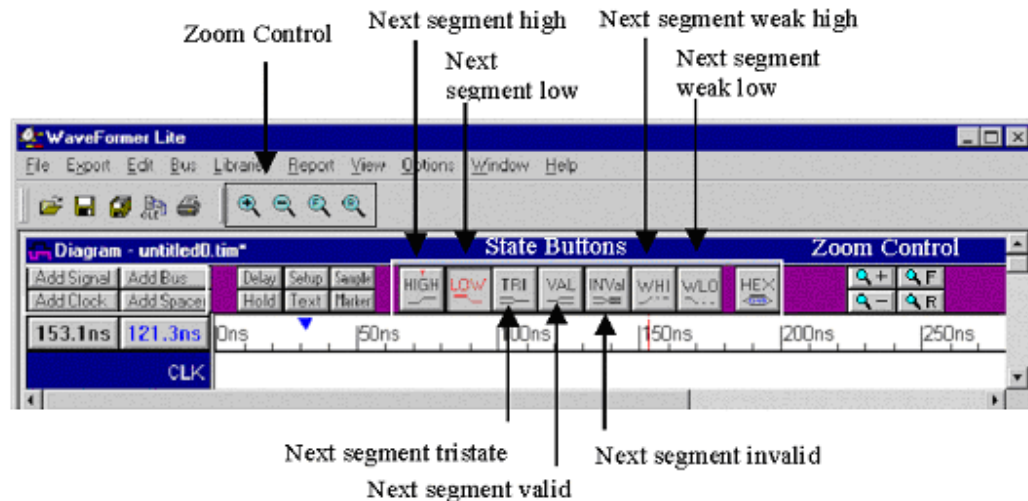

Figure A3 - WaveFormer Lite Diagram editor controls
1. Select the state (value) of the signal you wish to draw by clicking on one of the state values in the toolbar. For example, to draw a valid bus value, select the VAL button. The selected state button turns red (see Figure A3).